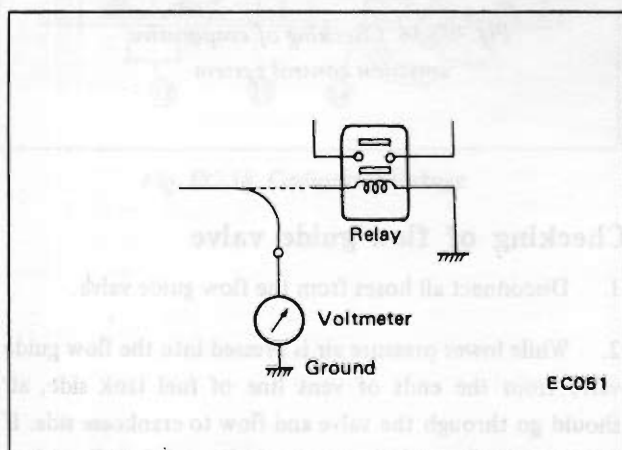

Fig. EC-34 Measurement of voltage
2. If they are in correct conditions, disconnect terminals of relay and measure the voltage between terminal and "ground." (See Figure EC-34.)